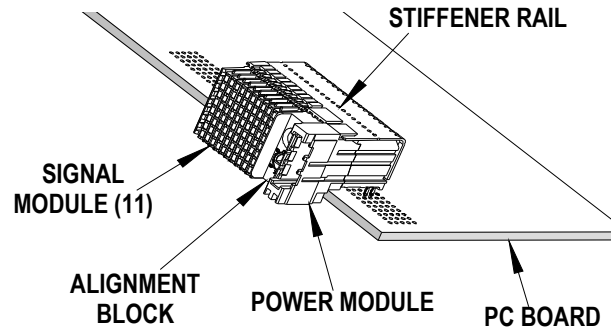

Figure 2-8
2. Start the assembly into the board by hand. See Figure 2-8.